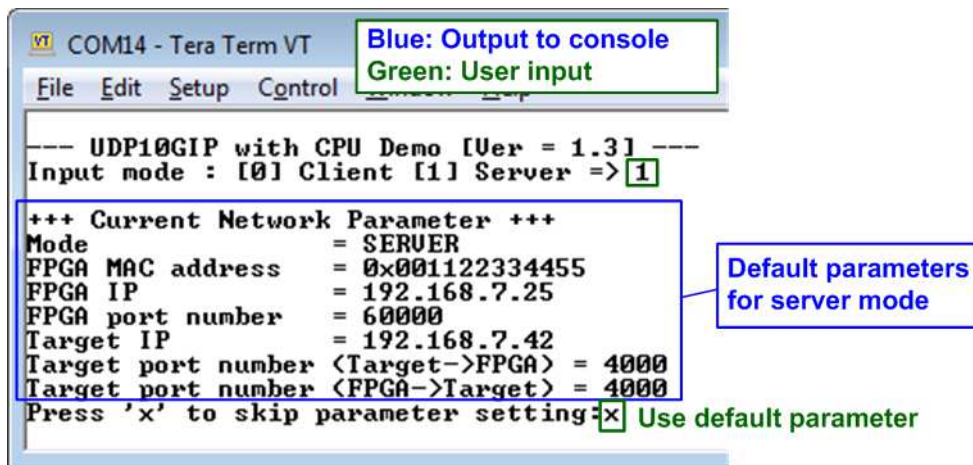

Figure 7-1 Display default parameter in server mode
- a. For server mode, if user does not change default parameters, input 'x' to skip parameter setting, as shown in Figure 7-1.